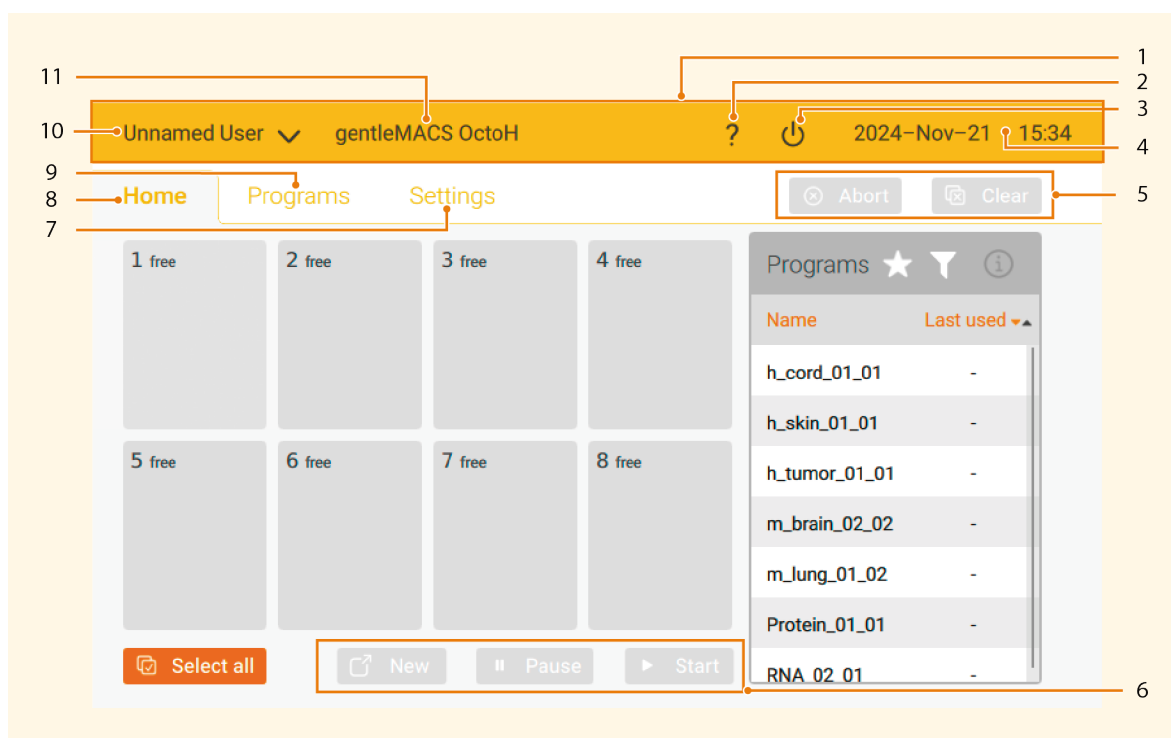

Figure 4.1: Overview of the user interface
- 1 Shut down the software before switching off the instrument. Tap the shut down button in the top indicator bar (**Figure 4.1**).